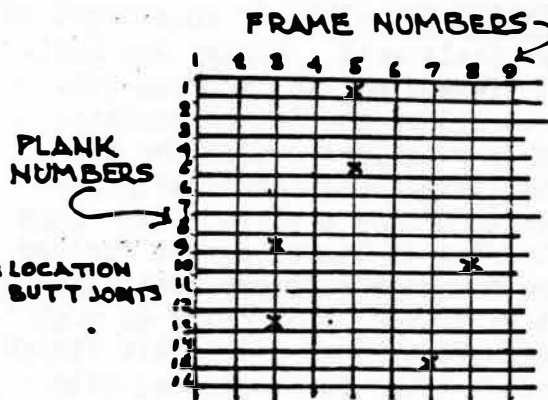

FIG. 2
6. Spacing of butt joints: 3 strakes between joints of the same frame or rib; 5 feet between joints on adjoining strakes; 4 feet between joints with one strake between. Make a simple sketch showing the location of each butt joint. Just draw horizontal lines numbered for each plank, and numbered vertical lines for each rib. This method will make cutting the planks to the proper length a simple job, and will avoid any error. (See Fig. 2)